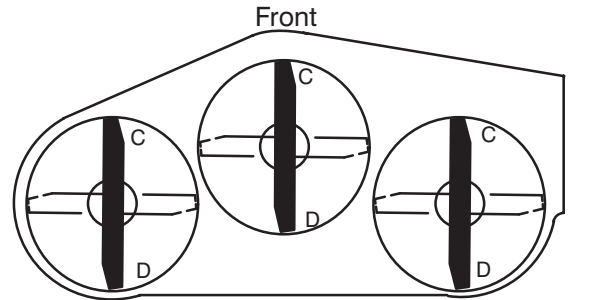
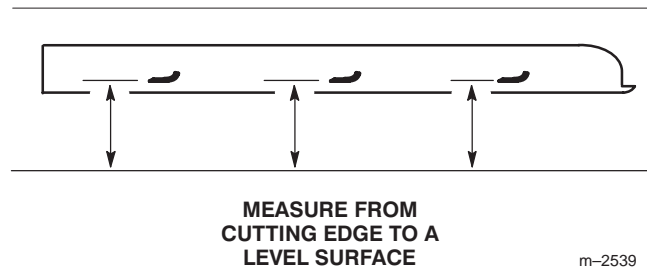

Figure 50
Figure 51
2. Position one blade front-to-rear (Fig. 50). Measure at “C” and “D” locations (Fig. 50) from a level surface to the cutting edge of the blade tips (Fig. 51).
4. Position the blades front-to-rear (Fig. 50). Measure at “C” and “D” locations (Fig. 50) from a level surface to the cutting edge of the blades (Fig. 51).